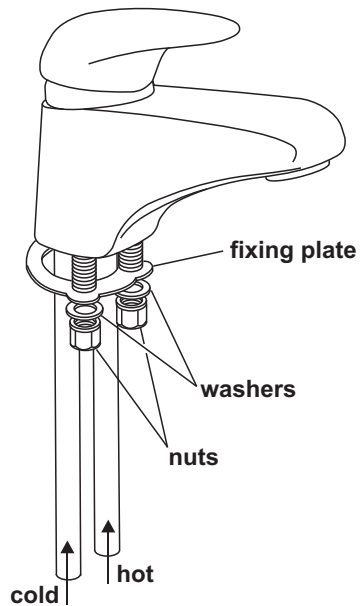

Figure 3 Bath filler fixation
- 4 Insert the fitting into the holes and connect as in Figure 3.